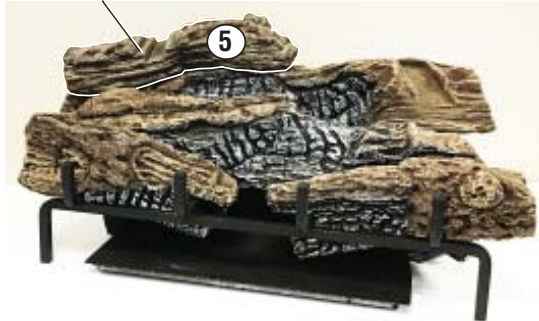

Figure 61 - Installing Log # 5
5. Place the left top back log (#5) on top of the rear log. Match the rectangular projection on top of the left side of the rear log with the rectangular hole on the bottom of the left top back log. Match the metal pin on the top of the rear log with the round hole in the bottom of the left top back log. See **Figure 61**.